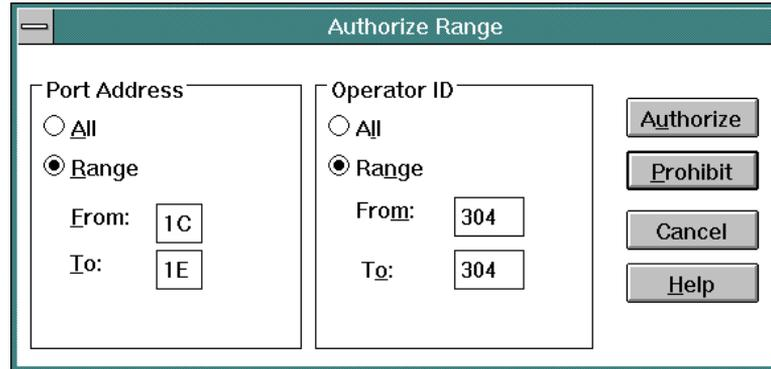

Figure 183. *Authorize Range* Dialog Box (LPAR Example)
- At the *Port Authorization* dialog box, click the *Range* button. The *Authorize Range* dialog box appears (Figure 183).
- At the *Port Authorization* dialog box, click the *Range* button. The *Authorize Range* dialog box appears again (Figure 183).